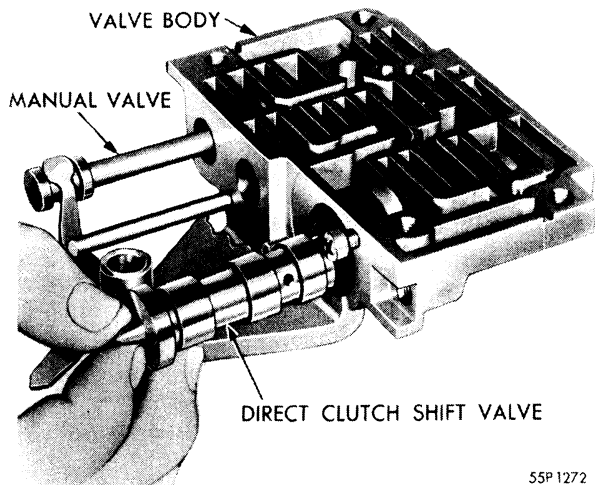
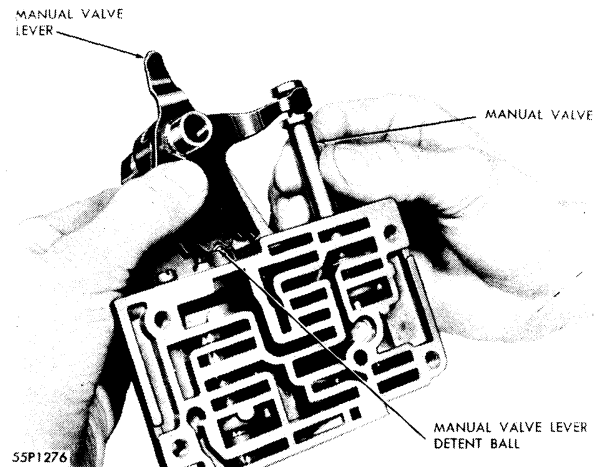

Fig. 124—Removal or Installation of Direct Clutch Shift Valve
Fig. 128—Installing Manual Valve and Lever
- (15) Remove the direct clutch shift valve spring from valve body.
- (16) Mark the direct clutch shift valve plug with Prussian blue (in order to install in same direction). Loosen the direct clutch shift valve plug screws sufficiently to allow removal of plug by pushing on open end of shift valve with finger.
- (17) Remove the direct clutch shift valve. (Fig. 124.) Remove valve body from stand, Tool C-3294, and place on clean paper.
- (2) Slide manual valve lever assembly into valve body.
- (3) Using a twisting motion, place manual valve in valve body sufficiently to engage manual valve with manual valve lever. Using the manual control lever on manual valve lever assembly, turn slowly in clockwise direction and, at the same time, using a twisting motion (Fig. 128), guide the manual valve into valve body to low range position. **Make sure detent ball is seated in detent.**
- (4) Place kickdown rod (small end toward end cover) into position in valve body.
- (5) Place valve body in stand, Tool C-3294, and install the direct clutch shift valve. (Fig. 124.)
- (6) Place the direct clutch shift valve plug into position (same as it was when removed) in valve body. Draw the two screws down evenly and tighten to 30 inch-pounds torque.
- (7) Install the direct clutch shift valve spring in valve.
- (8) Install the shuttle valve in valve body. Coat stop ring lightly with MOPAR Lubriplate and place into recess in valve body. Place shuttle valve spring in shuttle valve.
- (9) Place kickdown valve ball into valve body.
- (10) Place valve body and cover plate on end cover. Install the one short screw and lock-washer and tighten snugly.
- (11) Place adjustable shuttle valve plug into position in valve body end cover.
- (12) Install the kickdown valve spring in place in end cover.
- (13) Install valve body end cover to valve body.